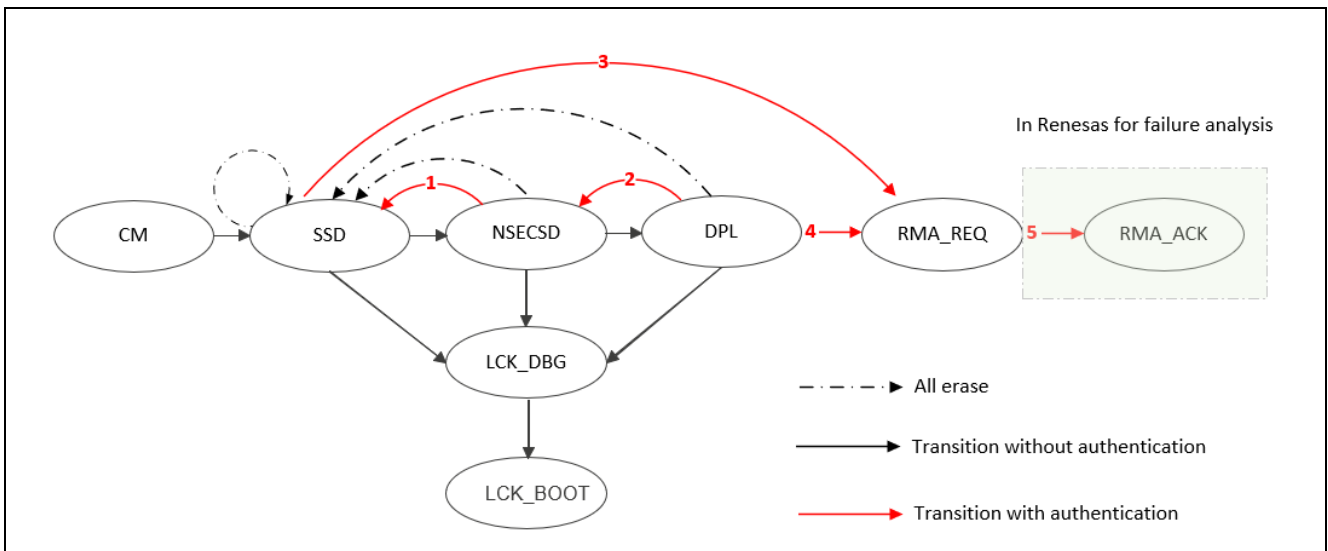

Figure 2. RA MCU Device Lifecycles
Figure 2 is a summary of all the possible state transitions for the entire lifecycle of the MCU.
As we can see from Figure 2, there are three types of transitions.
As shown in Figure 2, DLM keys are needed to regress the lifecycle states without erasing the contents of the MCU flash memory for failure analysis. The DLM keys include RMA_KEY, SCEDBG_KEY and NONSCEDBG_KEY.
- Support all unauthenticated device lifecycle state transitions except transitioning to RMA_ACK (which could only happen within an authorized team within Renesas as shown in Figure 2).